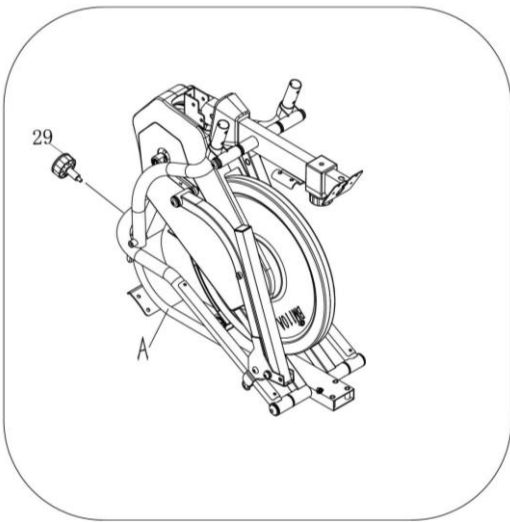

Figure 1
Lock the Knob(29) on the main frame(A),and move the Slider up and down and make it into the gear plate through the bolt(M16), as shown in Figure 1.